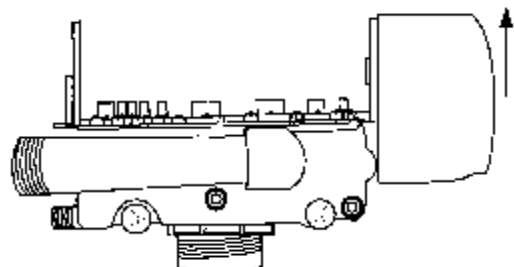

Figure 14
7. Lift the control off the valve, Figure14. To replace the control, reverse the above procedure. Note that the camshaft needs to be positioned correctly before it can be inserted into the back of the control. There is a locating arrow on the camshaft. Position the arrow on the top of the shaft and slide the camshaft into the control. Push up on the end of the camshaft, furthest from the timer, snapping it into place.